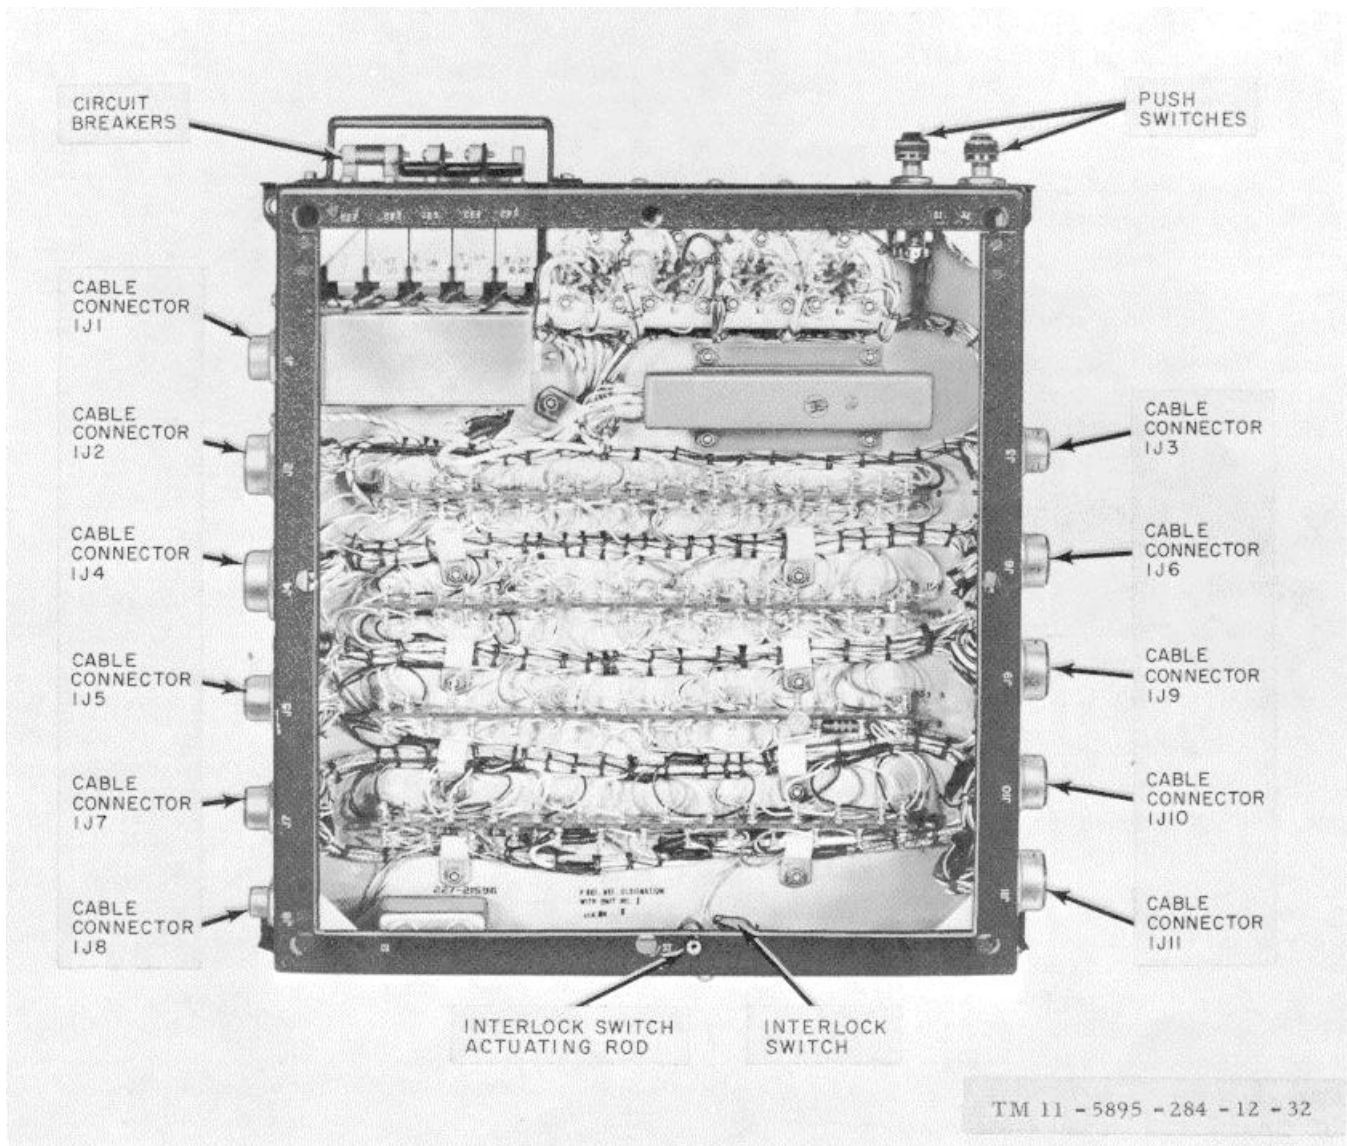

Figure 3-1. Interconnection box, cover removed.
- (2) Close the interconnection box interlock switch (fig. 3-1) by pulling out the interlock switch actuating rod.
- (3) Start the radar set (para 2-11).